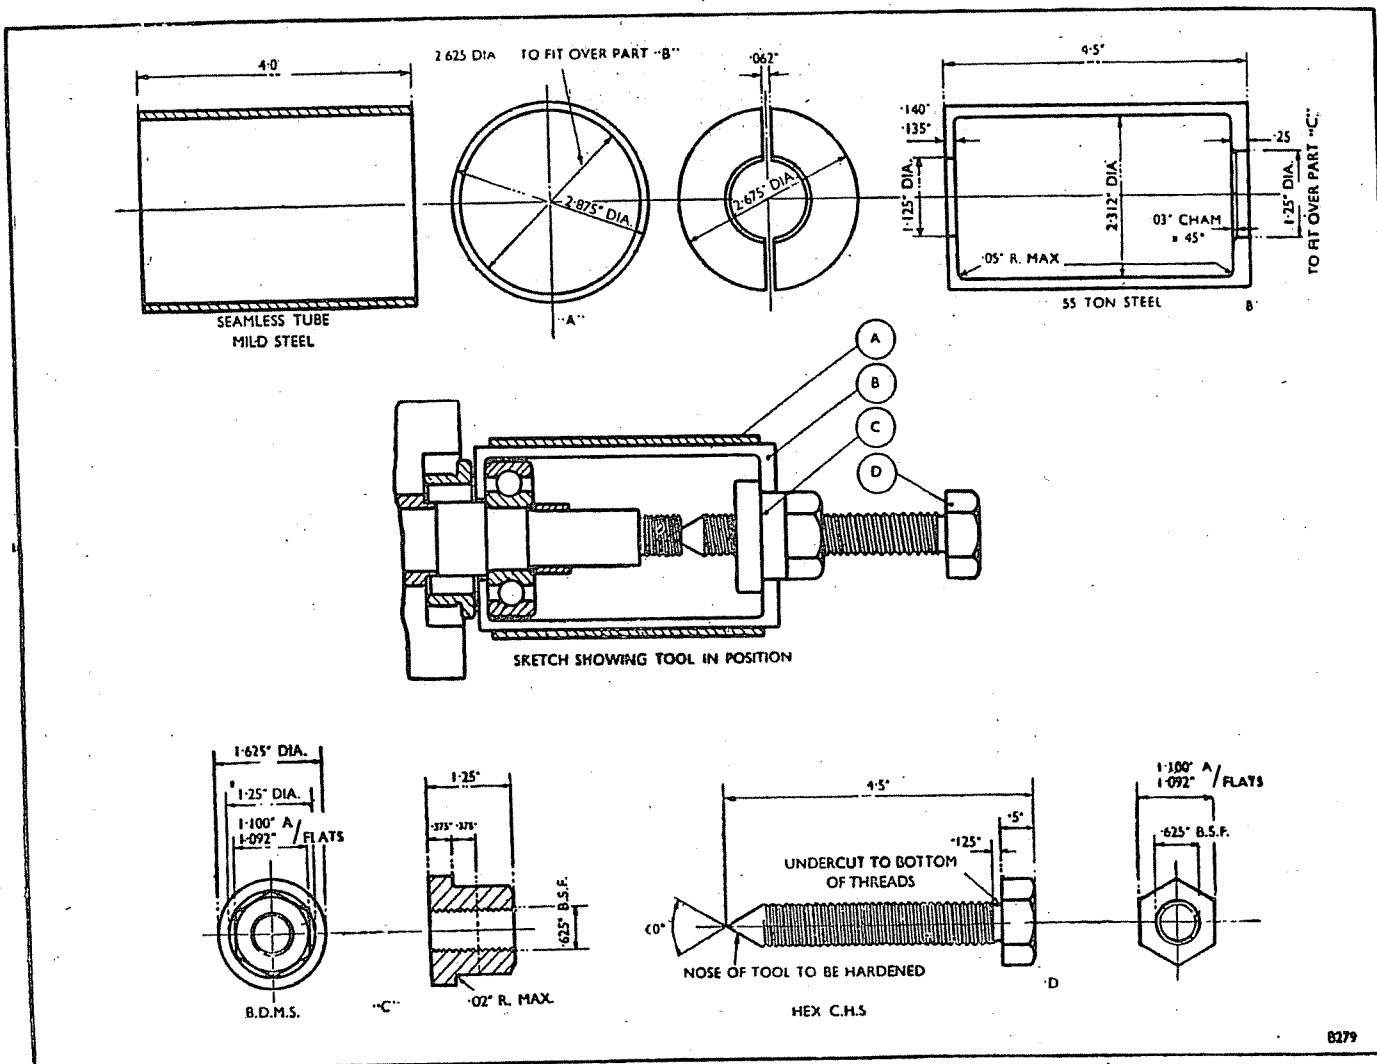

Fig. 37—Details and assembly of Extractor Tool.
- (7) To remove bearings, cam rings and shaft collars, an extractor tool is necessary, and is illustrated in Figure 37. The claws of the extractor should be inserted between the bearings and cam ring. On screwing the bolt up against the rotor shaft end, the ball race and shaft collar will then be extracted together. The cam rings can then be removed from the rotor.